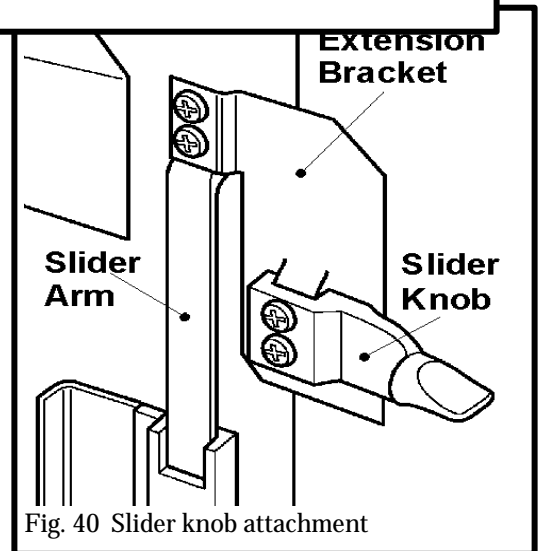

Fig. 40 Slider knob attachment
13.4.2 Detach the slider knob from the extension bracket by removing two screws. See figure 40.